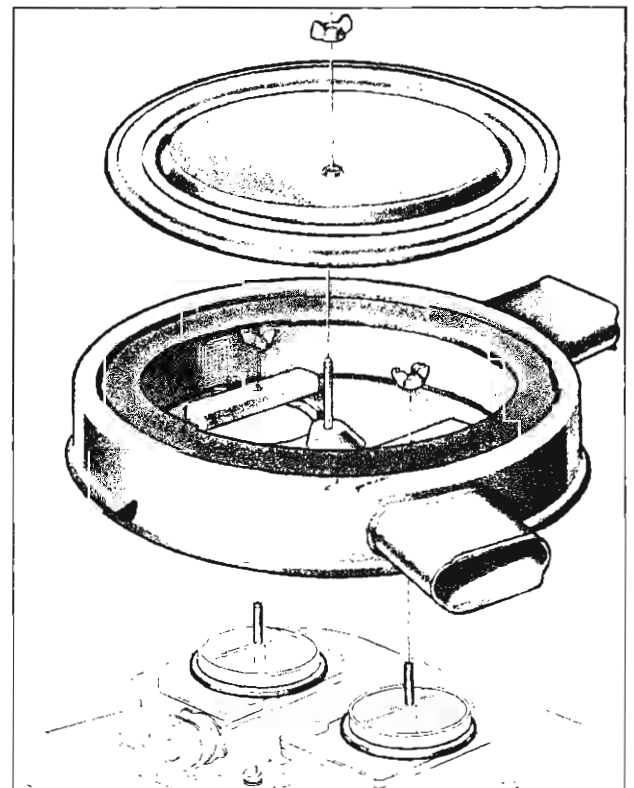

Fig. 48—Air Cleaners
2. Remove air cleaner (fig. 48) and both throttle pull-back springs.